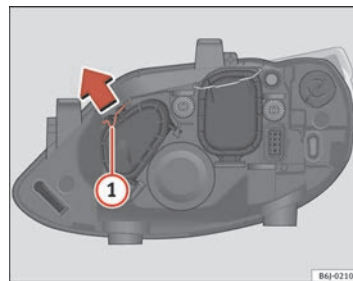

Fig. 140 Main beam headlights
- Move the loop **1** in the direction of the arrow and remove the cover ⇒ page 214, fig. 140.